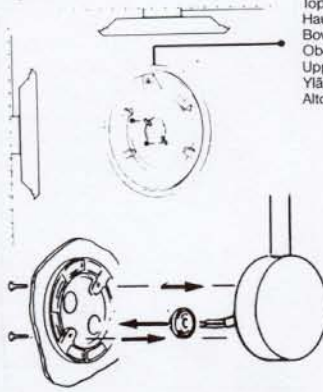

Fig.7
10. Mark and cut a hole in the mounting surface with 142mm radius (Fig 7).